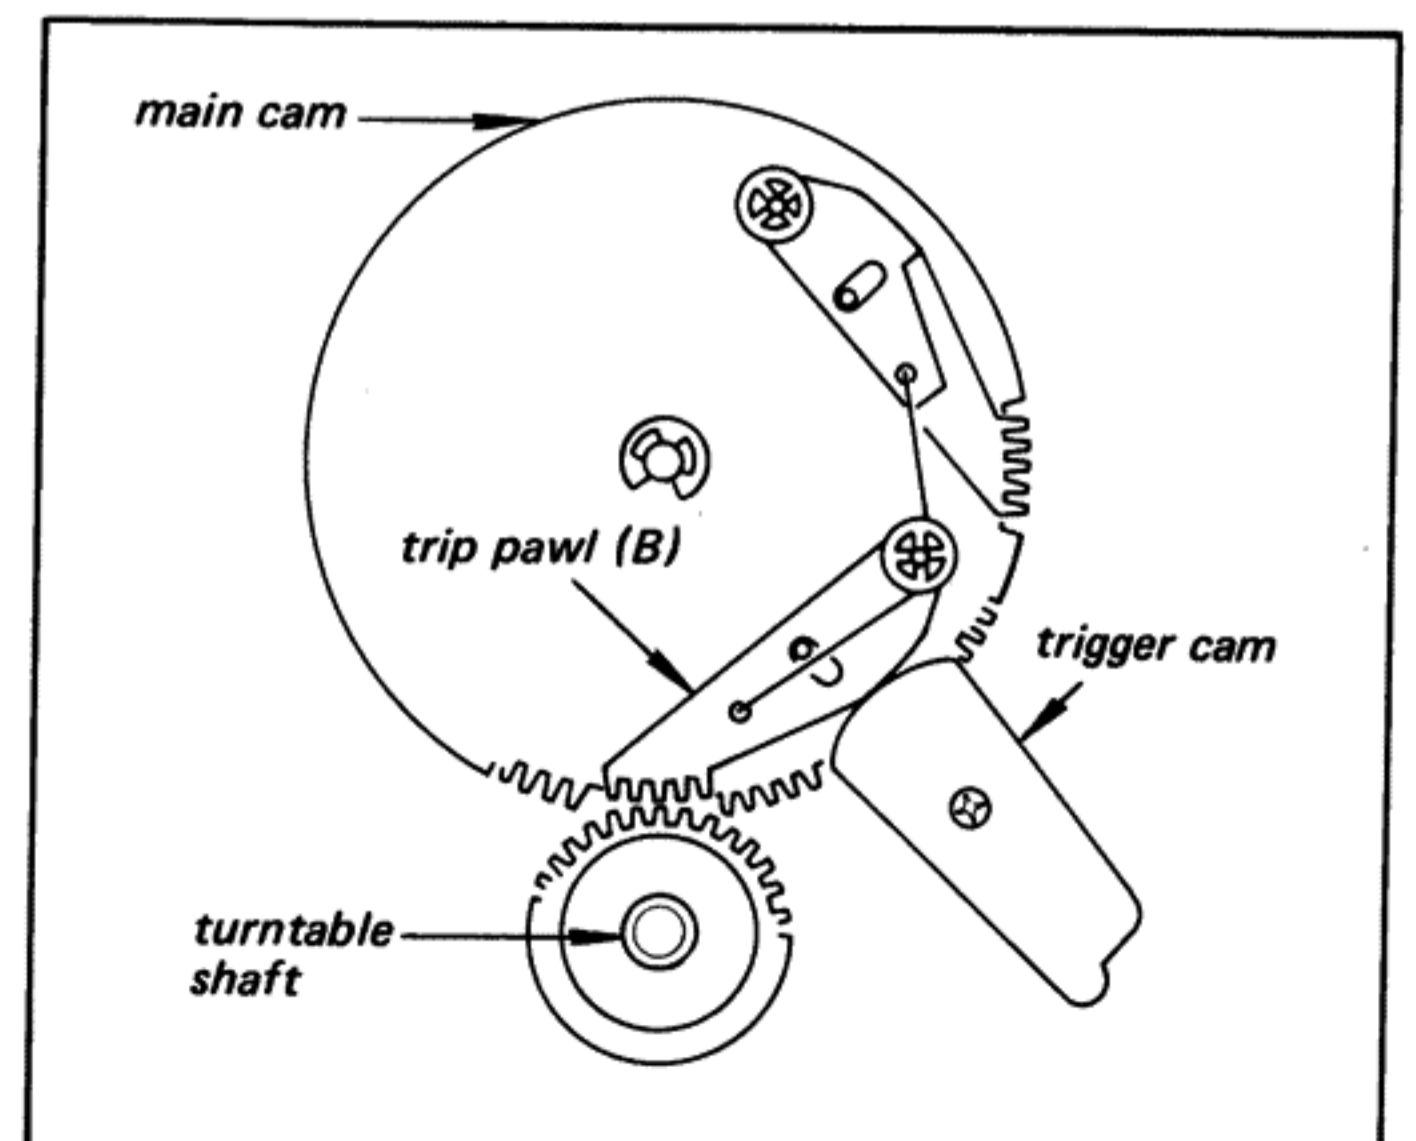

Fig. 3-11. Tonearm lowering position
3. Rotate the main cam counterclockwise by hand until the gear portion of the trip pawl (B) faces the turntable shaft as shown in Fig. 3-11. At this time, the tonearm lowers.